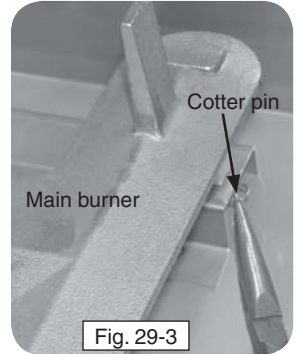

Fig. 29-3
3. Remove the cotter pin from the left or right rear burner anchoring peg by pulling it straight out of the cotter pin hole using fingers or needle-nose pliers (Fig. 29-3).